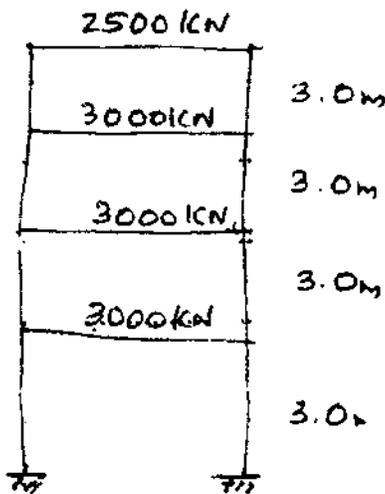

Fig .3
14. Determine the base shear and shear force at each floor level of the four storied hospital building in fig.3 with infill walls, situated in Delhi with the following data.